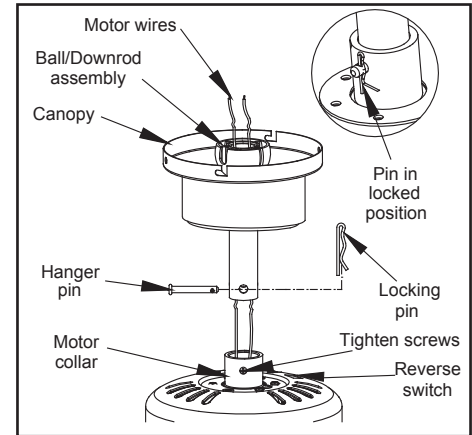

Figure 6
3. Route the wires exiting the top of the fan motor. Make sure the slot openings are on top. Route the wires through the canopy and then through the ball/downrod assembly. (Figure 6)
5. Align the holes at the bottom of the downrod with the holes in the collar on top of the motor housing. (Figure 6)
6. Carefully insert the hanger pin through the holes in the collar and downrod. Be careful not to jam the hanger pin against the wiring inside the downrod. Insert the locking pin through the hole near the end of the hanger pin until it snaps into its locked position, as noted in the circle inset of Figure 6.
The fan shipped from the factory with the reversing switch positioned to circulate air downward. If airflow is desired in the opposite direction, turn your fan off and wait for the blades to stop turning, then slide the reversing switch (located at the top of the motor housing, refer to figure 6 on page 4) to opposite position, and turn fan on again. The fan blades will turn in the opposite direction and reverse airflow.